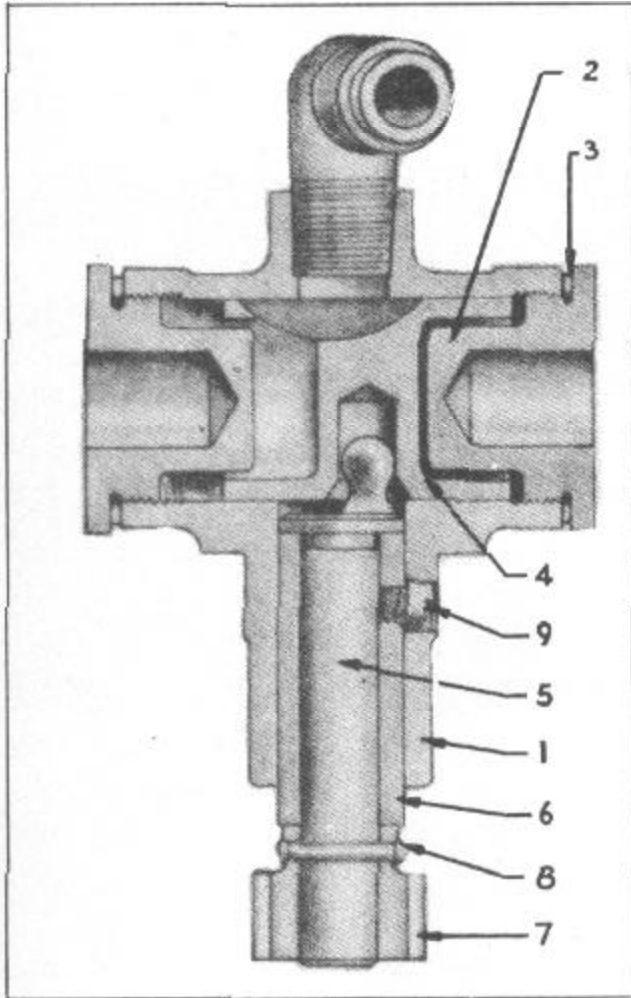

FIGURE 7
1. Remove the hex plug (2) and gaskets (3) from either end of oil pump, Figure 7.